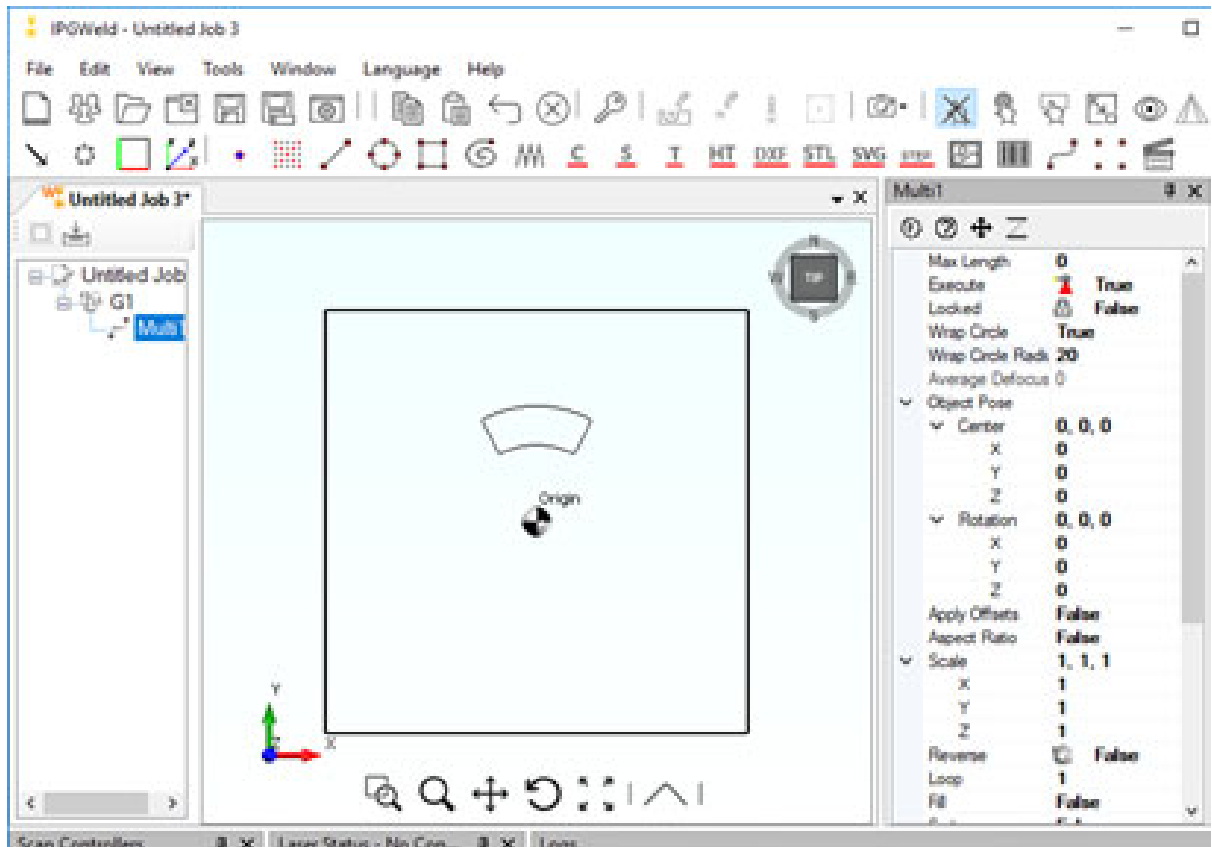

Figure 149: Wrapped Circle
4. Set 'Wrap Circle' to True, and set Wrap Circle Radius to your desired value. The vector object will then appear wrapped around a circle of that radius centered on origin. In this example, Wrap Circle Radius is set to 20 (mm), the resulted object is shown in Figure 149.